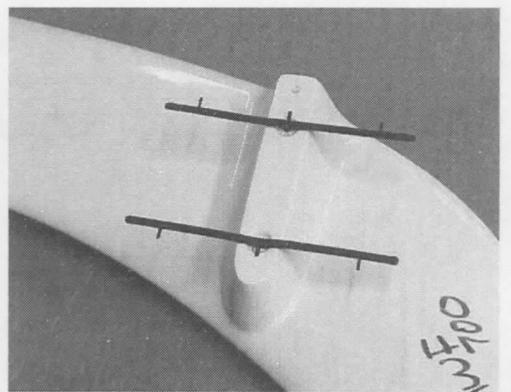

FIG. 3
3. LOCATE FOUR (4) "T" STRIP DRILLING JIGS IN HARDWARE KIT PROVIDED. INSTALL JIGS BY INSERTING THE RAISED CENTER INTO STUD HOLES ON WING. JIGS SHOULD BE INSTALLED PERPENDICULAR TO WING FEET (SEE FIG. 3).